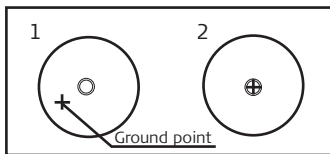

Fig. 5-4
2. Perform precise leveling up of the instrument as described in 5.3 and repeat the operation in (1) of 5.4.2 until the instrument is precisely leveled up and the center of the laser precisely coincides with the ground point (as shown in Fig.5-4).